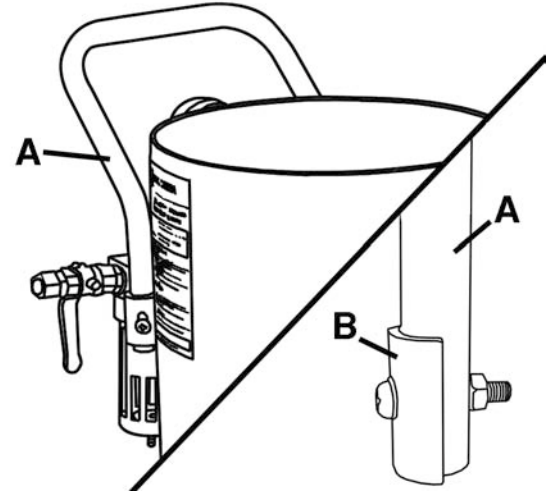

Figure 4
Locate the transport handle (A) Fig.4 and fix it to both pressure tank handle brackets (B) using a pan head screw, washer and hex. nut on each side.